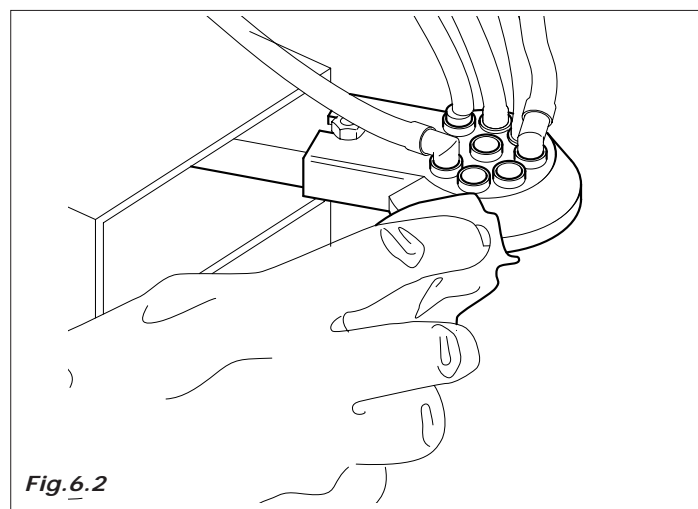

Fig. 6.2
- clean all the visible parts in the dispensing area. (Fig. 6.1 e Fig. 6.2)